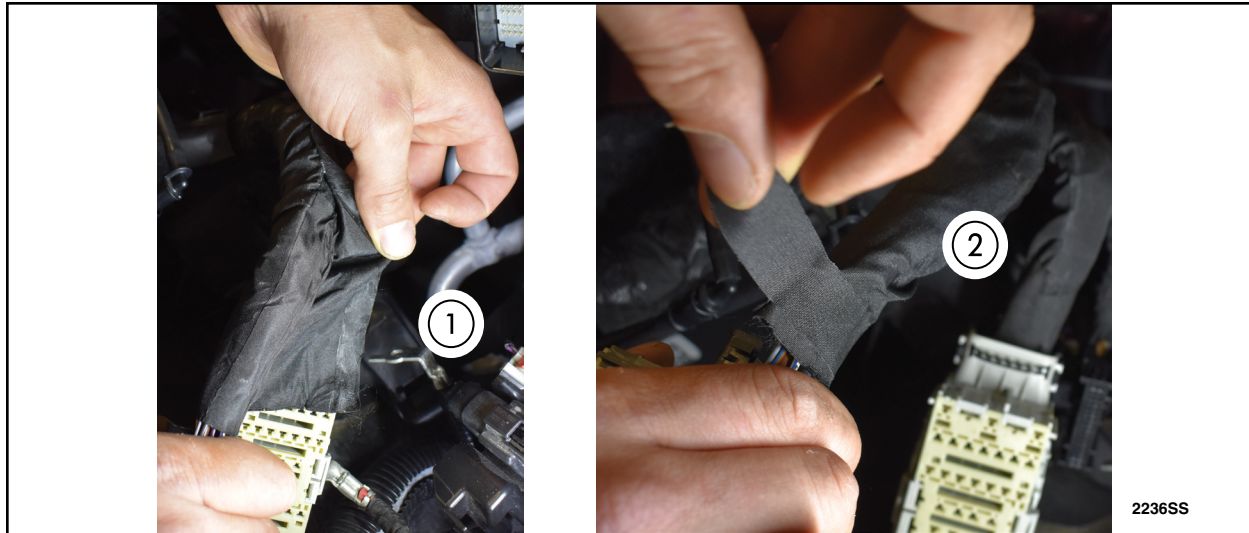

FIGURE 50
60. Put wire covering back into place and secure with new Coroplast tape. See Figure 50.